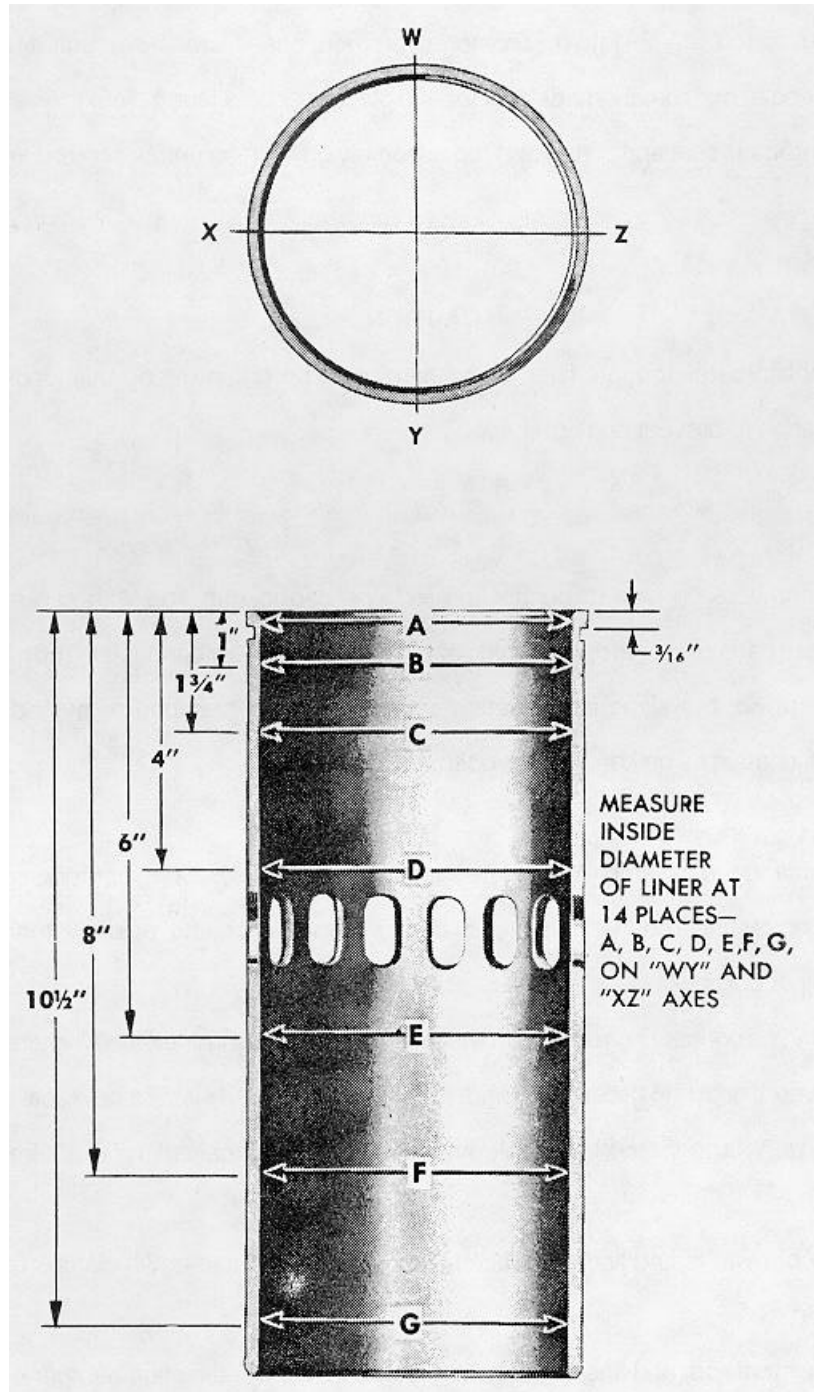

Figure 6-29. Cylinder Liner Dimensional Inspection.
- (1) Thoroughly inspect cylinder liner for out of round condition, taper, cracks, scoring, flange irregularities, and erosion.
- (2) Refer to Table 1-1 for liner dimensions and measure the liner at points shown in Figure 6-29. To check these dimensions, use a bore gage which has a dial indicator calibrated in 0.001 inch increments.
(3) If taper is out of round and does not exceed limits listed in Table 1-1, hone liner to remove any step or ridge at top of ring travel and to remove glaze caused by rubbing action of piston rings.